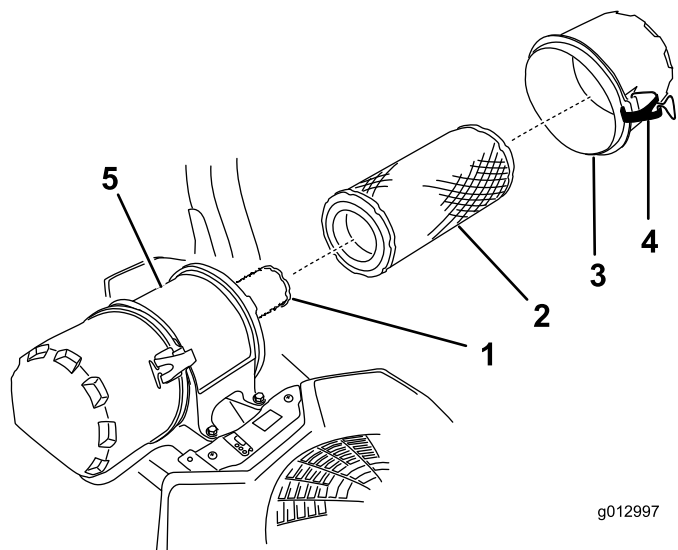

Figure 55
6. Release the latches on the air cleaner and pull the air-cleaner cover off the air-cleaner body (Figure 55).
8. Gently slide the primary filter out of the air-cleaner body (Figure 55).
2. If you are replacing the safety filter, carefully slide it into the filter body (Figure 55).
3. Carefully slide the primary filter over the safety filter (Figure 55).
4. Install the air-cleaner cover and secure the latches (Figure 55).